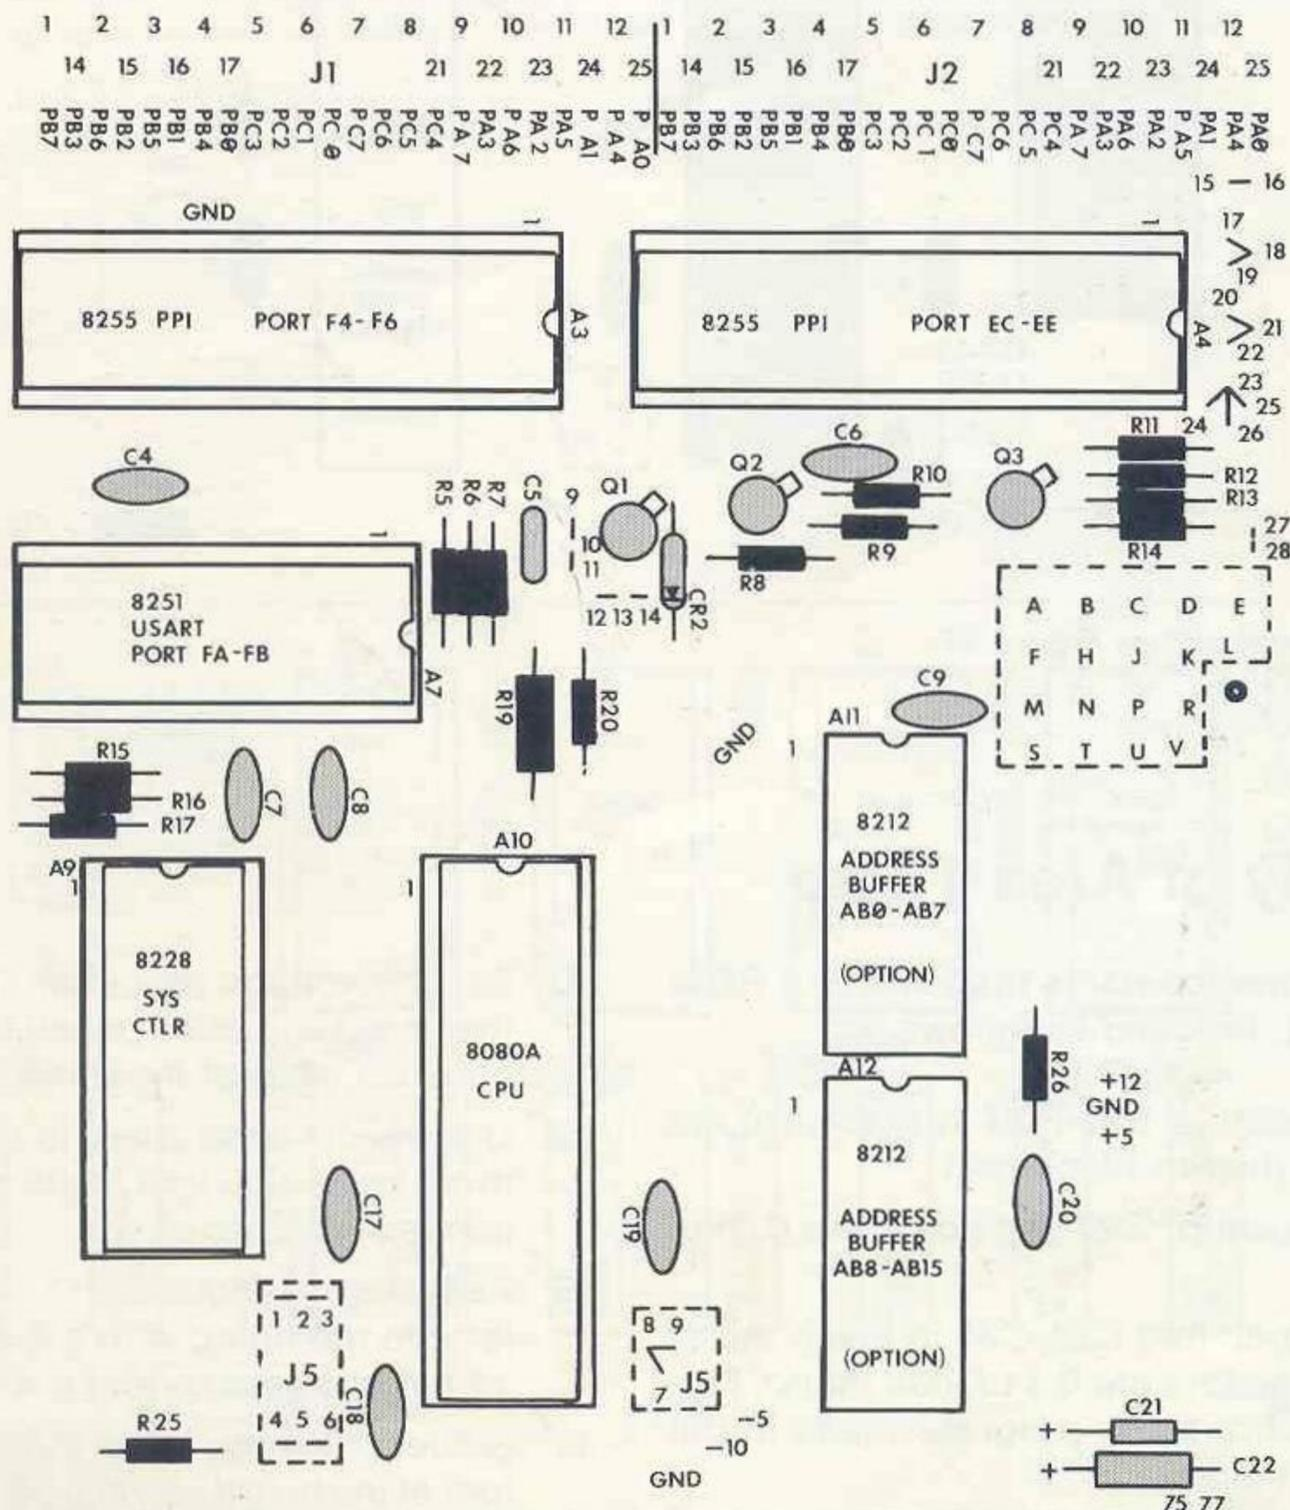

Figure 2-8. Construction Figure #6.
- ☑ Solder diode CR2 into place. Make sure the arrow is as shown on the board. Figure 2-8 shows the progress made in the last three steps.